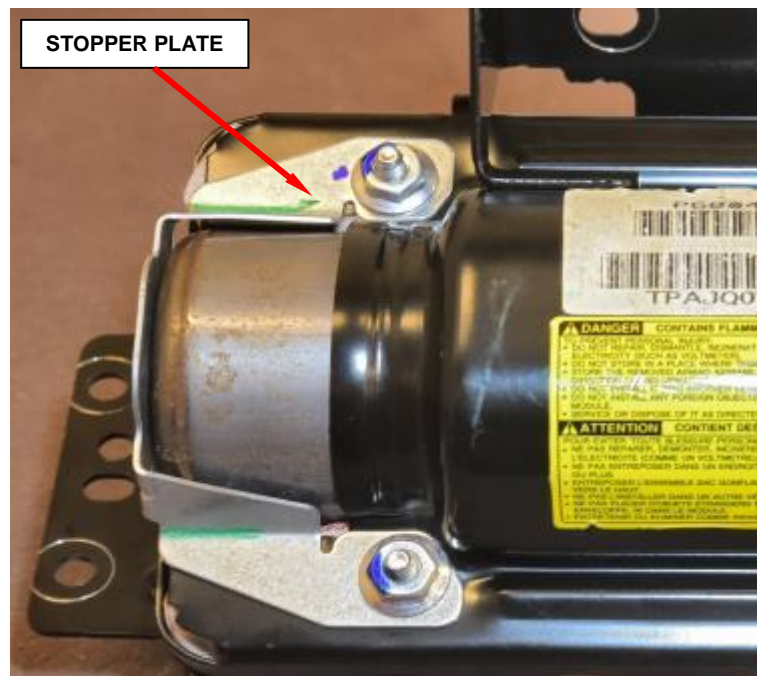

Figure 36 – Stopper Plate
- c. Remove and save stopper plate from housing (Figure 36).